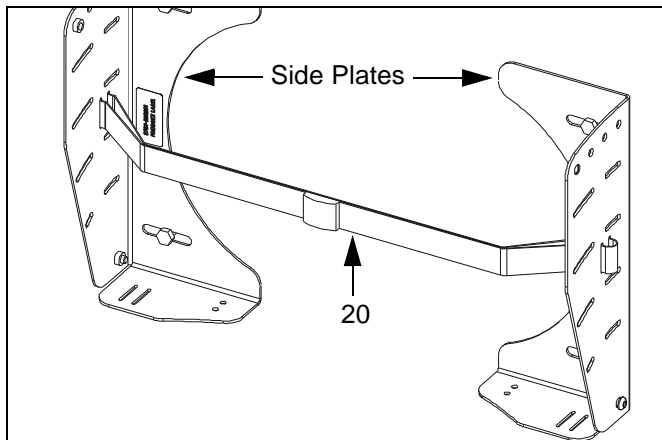

Figure 5: Install Strap
3. Loosely thread strap (20) through side plates so that buckle is in front (See Figure 5).